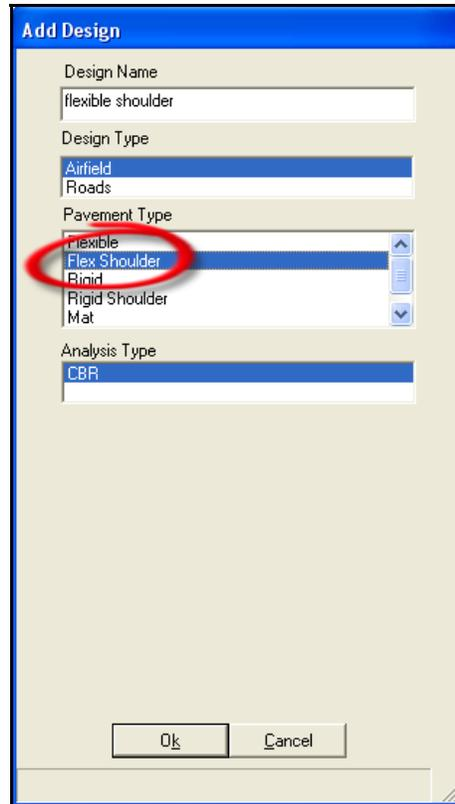

Figure 4-12. Creating a Flexible Shoulder Design
- (1) Click the **Add** button to add a design.
- (2) On the Add Design window, enter a design name in the Design Name text box.
- (3) From the Design Type list box, select Airfield.
- (4) From the Pavement Type list box, select Flex Shoulder (Figure 4-12).
- (5) Click **Ok**.
- (6) After you enter the required information on each window, click **Ok** to continue.
- (7) After you enter all the layer information and you add any additional layers required, click **Save and Calculate** to calculate your design.
- (8) If the pavement will be used by support vehicles (i.e. snow removal equipment, fire trucks, fuel trucks), the shoulder should be checked by creating a road design. You will need to create a traffic pattern that includes the support vehicles using the shoulder and create a design using Roads as your design type. Compare the results of the Shoulder and Roads designs; the governing design will be the one that produces the thickest section.